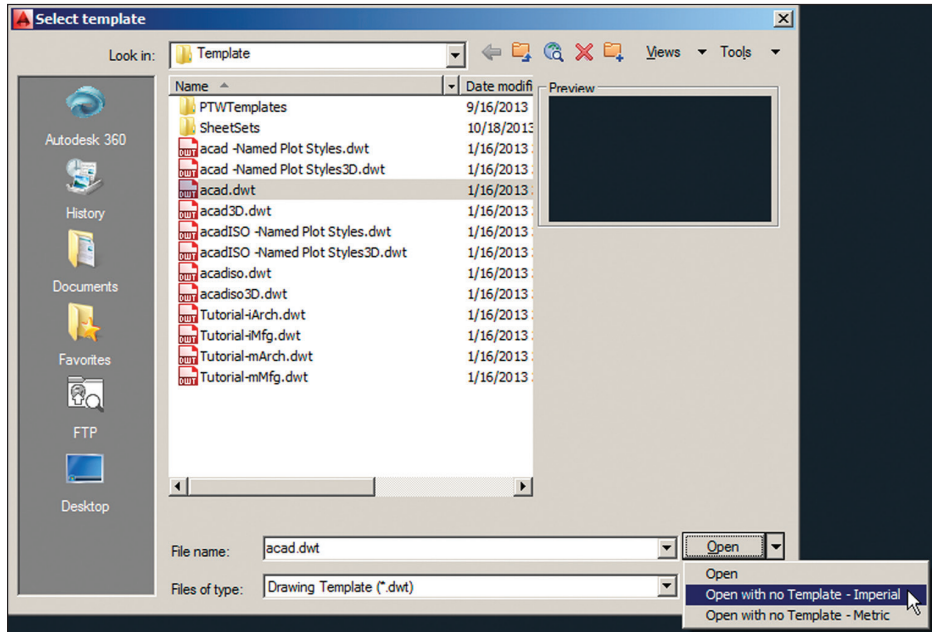

FIGURE 14.5 Creating a new drawing without using a template
- Click the New button on the Quick Access toolbar. Click the arrow button adjacent to the Open button in the Select Template dialog box that appears. Choose Open With No Template – Imperial from the drop-down menu (see Figure 14.5).